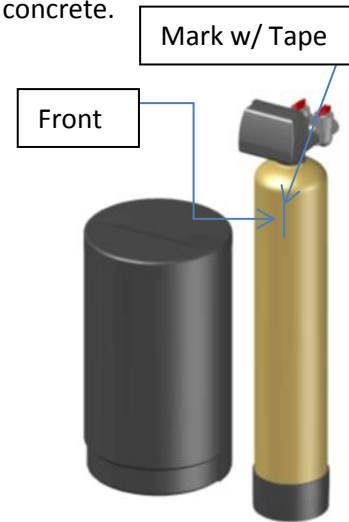

Figure 7: Front of Resin Tank
- d. Mark the “front” of each resin tank (shown in Figure 7) with either a marker or tape. The front of the resin tank is determined by the location of the face of the control valve once it has been secured to the face of the control valve. Make sure that the system is positioned in a way that the plumbing can be installed.